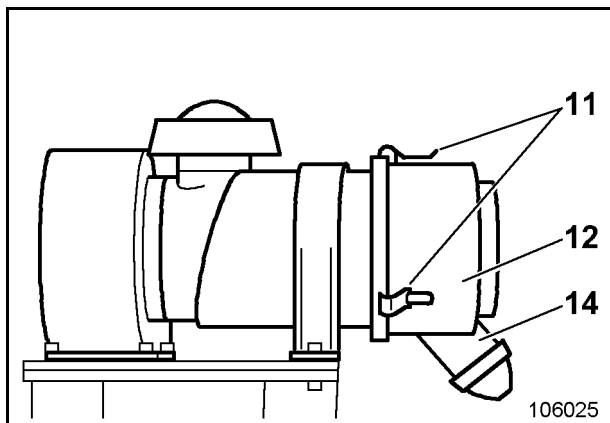

Fig. 3-25:
- Press dust trap (14, Fig. 3-25:) and hold until the dust trap is empty.
- Loosen clips (11, Fig. 3-25:).
- Remove dust collector (12) and empty.
- Remove dust collector (12, Fig. 3-25:).
- Replace or clean filter element (13).
- Refit dust collector (12, Fig. 3-25:).